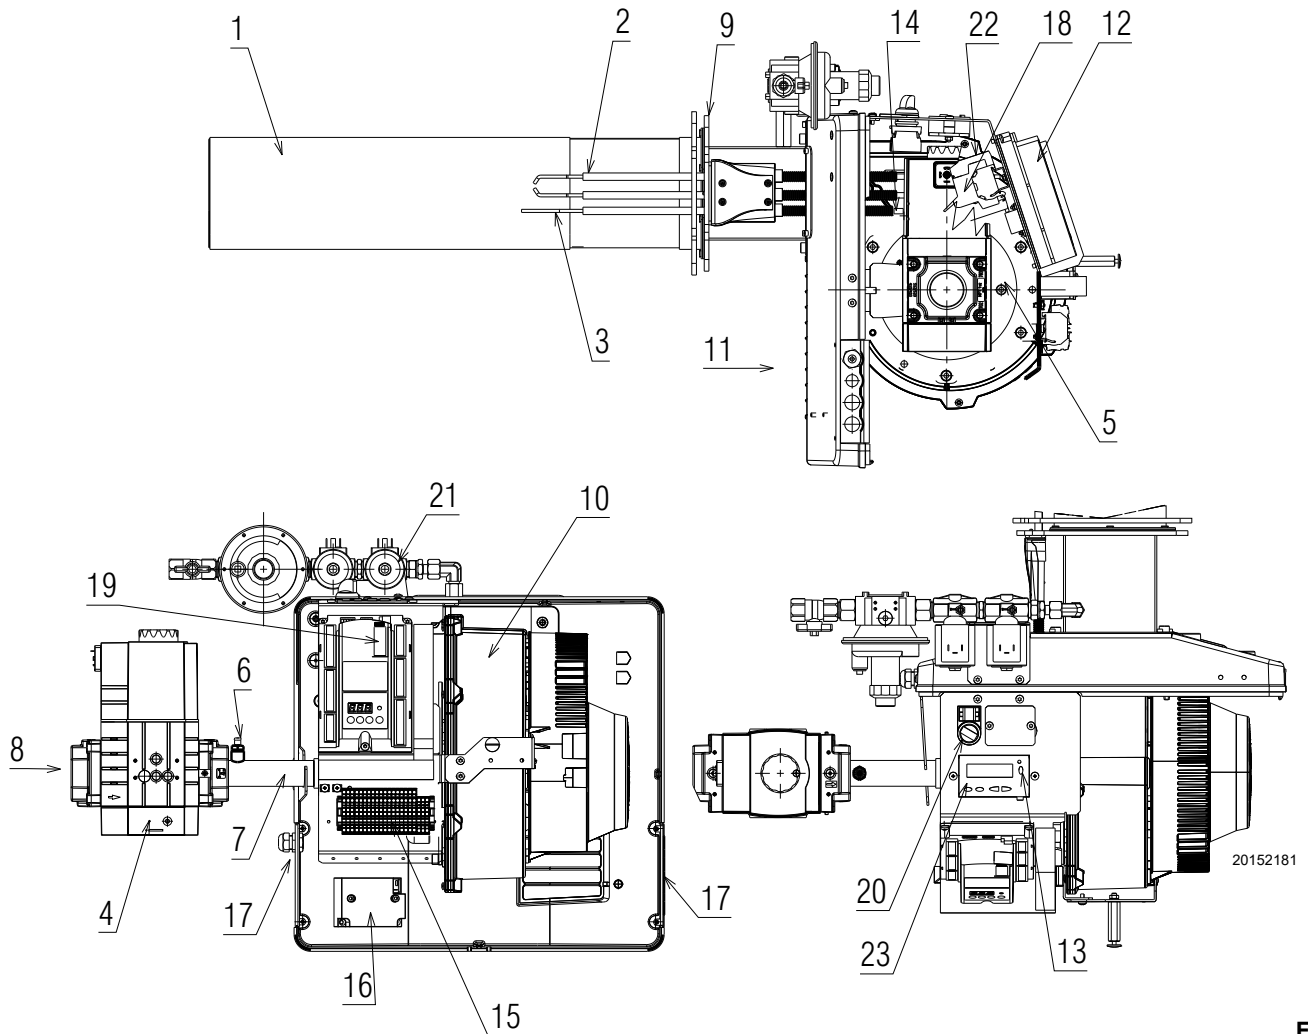

Fig. 3
- (1) Reference conditions: Ambient temperature 20°C - Gas temperature 15°C - Barometric pressure 1013 mbar - Altitude 0 m a.s.l.
(2) Input gas pressure 8)(Fig. 3) with zero pressure in combustion chamber and at maximum burner output.
(3) Sound pressure measured in manufacturer's combustion lab, with burner operating on test boiler, at maximum, average and minimum modulation output. The sound power is measured with the "Free Field" method, as per EN 15036, and according to an accurate "Accuracy: Category 3" measurement, as described in EN ISO 3746.
the alarm on the display 23)(Fig. 3) signals that the burner is in lockout.
Press the push button 13)(Fig. 3) to reset.